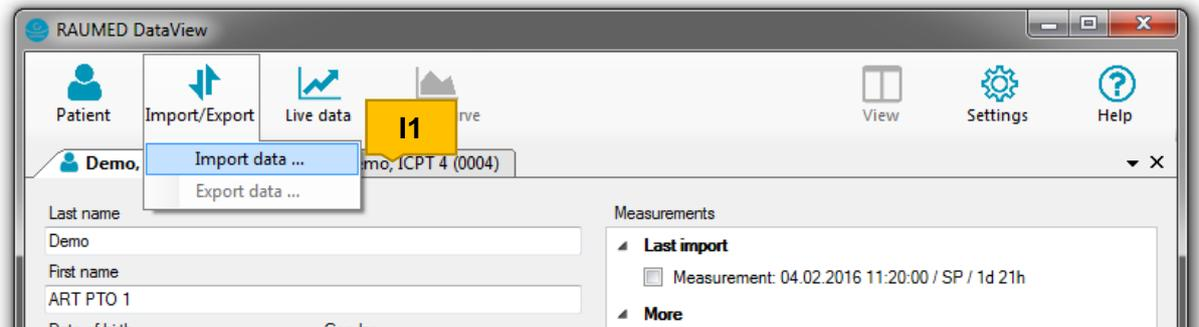

Figure 8 Main menu: Import/Export
- b) Via the Main menu using the button "Import/Export > Import data ..." (see Figure 8, **(1)**).
- a) Via the Main menu using "Import/Export > Export data ..." (see Figure 8, **(I1)**)